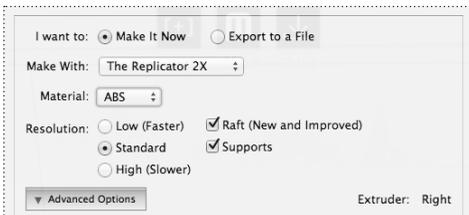

Fig. 10.12
9. In the Make dialog, ensure that the following boxes are checked [Fig 10.12]: